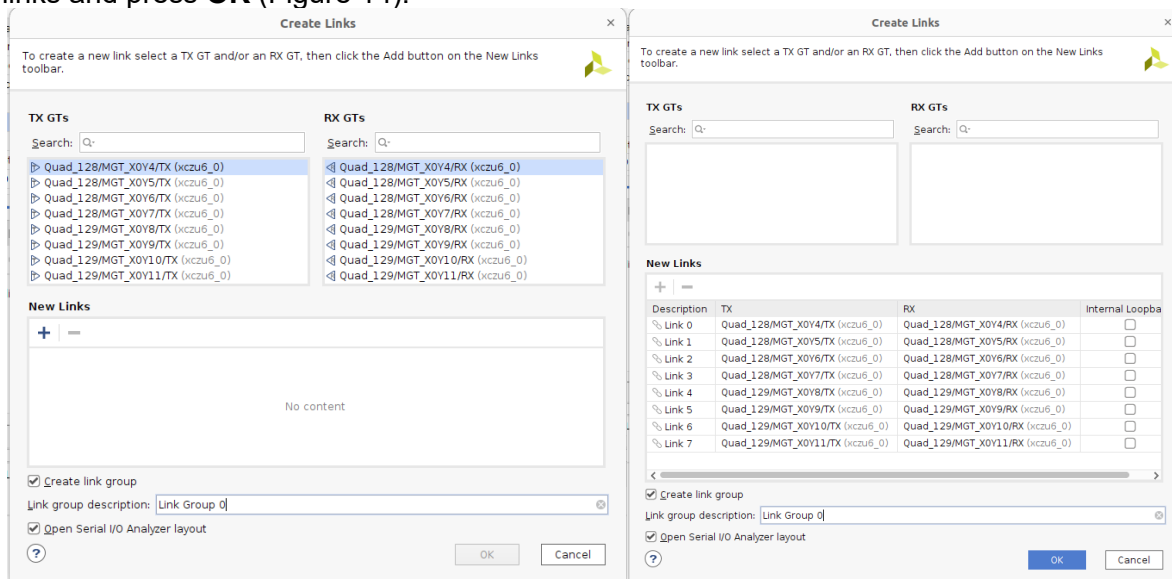

Figure 14: Create Links Window. Vivado autodetects any GT transceivers (Left). Users must add each link for IBERT analysis (Right).
4.8.8. Under New Links, click on the + symbol to add a link between the TX/RX GTs. Add all links and press **OK** (Figure 14).